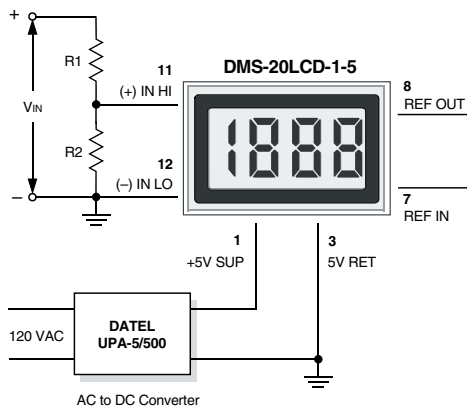

Figure 4. Input Attenuation Circuit
- 3. Engineering Scaling:** For measuring voltages greater than the full scale input range of a given meter, the input signal must be attenuated. A simple voltage divider (similar to that shown in Figure 4) will scale the input to within the range of the selected meter.  $R_1$  and  $R_2$  should be precision,  $\pm 1\%$ , metal-film resistors with absolute TCR's less than  $50\text{ppm}/^\circ\text{C}$ . See Ap Note 4 for more information on engineering scaling.